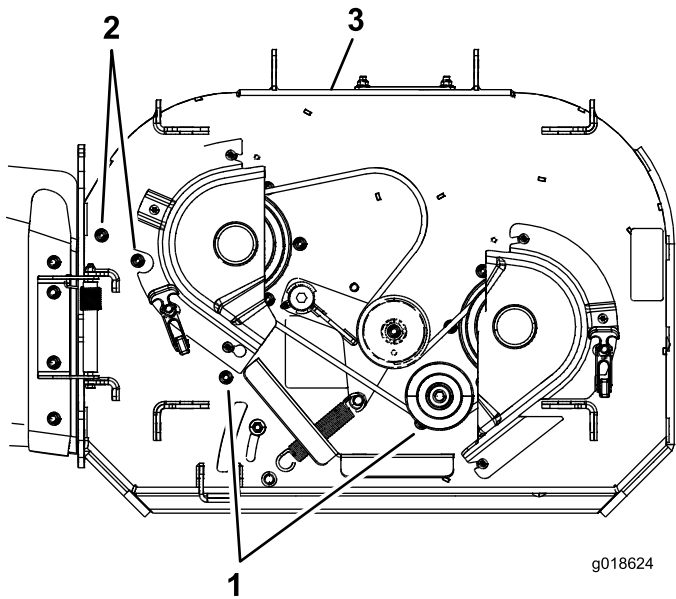

Figure 4
4. Remove the bolts and flange nuts holding the discharge baffle in place (Figure 3 or Figure 4). Install the nuts and bolts to cover the holes after the baffle is removed.